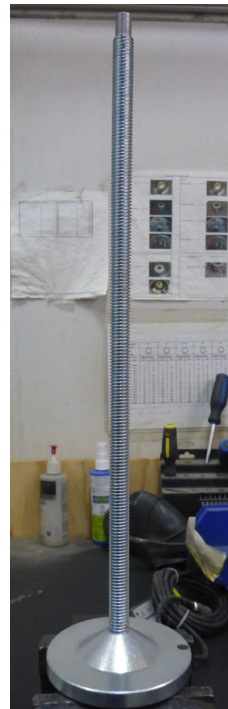

Figure 15
3. Clean the sliding sheave assembly (items ⑤ ⑥ ⑦ ⑧ ⑨ ⑩) with an air gun.
4. If it is necessary to disassemble the sliding sheave ⑦ and the spring cover ⑨, use the disassembly tool 5055-0002 (figure 15).